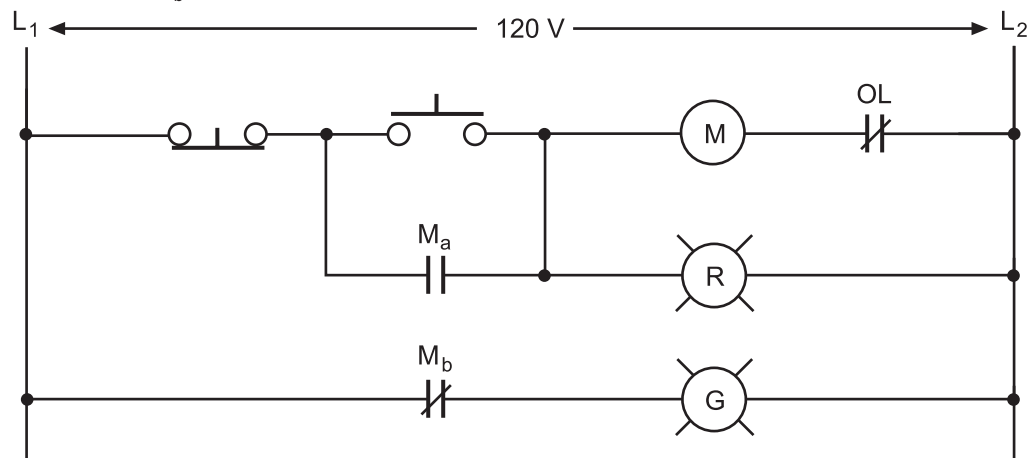

Figure 2—Circuit for Questions 3 and 4
3. If the motor starter shown in Figure 2 is energized and functioning properly, what is the voltage across the:
4. If the starter in Figure 2 is de-energized by pressing STOP, what is the voltage measured across the: